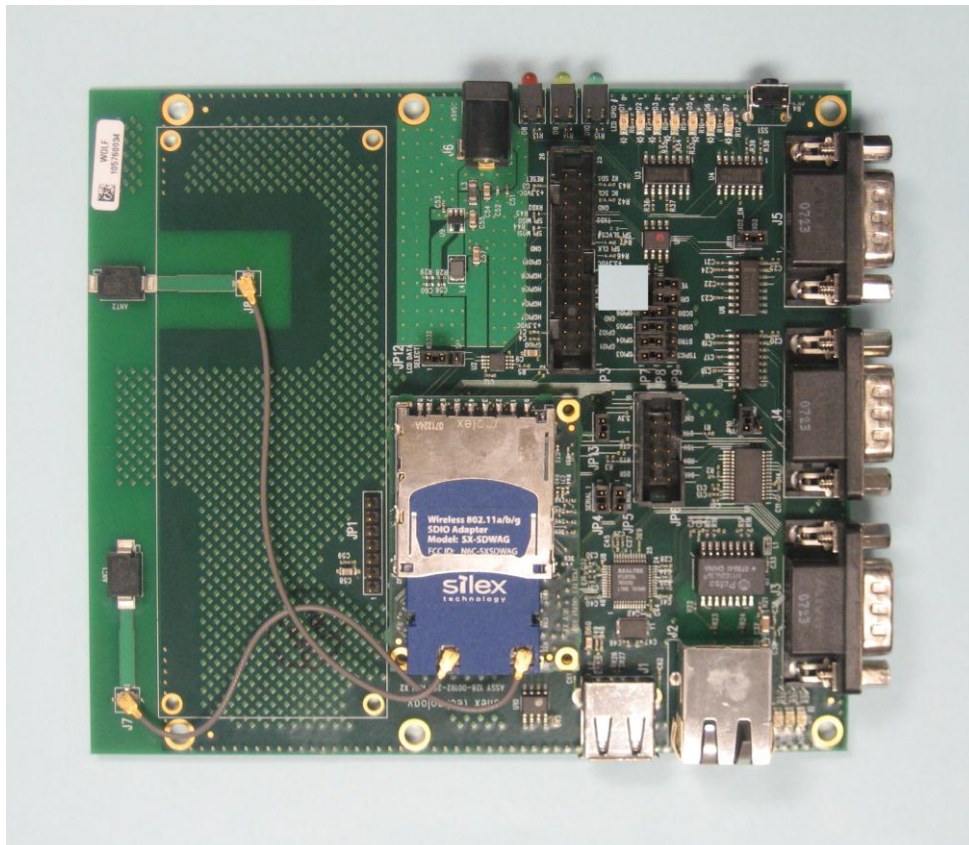

Figure 3 Installing SX-560-1701 Module in Evaluation Daughtercard
The SX-560-6900 Evaluation Daughtercard is designed to help you in the development of the necessary hardware and software required to use the SX-560 module. It includes I/O connectors, cables, and power supply in an easy-to-use package. The SX-560-1701 Module is installed in the Evaluation Daughtercard as shown in Figure 3. The SX-560-2701 module is installed as shown in Figure 4
2. The Evaluation Daughtercard includes both on-board bead antennas and external antennas. Use the included U.FL to U.FL cables with the bead antennas or the U.FL to RP-SMA cables with the external antennas. Plug the main antenna cable into the Main Antenna Connector on the card (see Figure 3). Plug the auxiliary antenna cable into the Auxiliary Antenna Connector (the auxiliary antenna improves radio reception, but is not required for operation).
3. If you are using the on-board bead antennas, connect the other end of the antenna cable(s) into either of the built-in bead antenna connectors (J7 and J8) as shown in figure 3. If you are using the external antennas, connect the RP-SMA end of the antenna cable(s) to the external antenna(s).
2. The Evaluation Daughtercard includes on-board chip antennas. Use the included U.FL to U.FL cables. Plug the main antenna cable into the Primary Antenna Connector on the card (see Figure 3). Plug the auxiliary antenna cable into the Auxiliary Antenna Connector (the auxiliary antenna improves radio reception, but is not required for operation).
3. If you are using the on-board chip antennas, connect the other end of the antenna cable(s) into either of the built-in chip antenna connectors (J7 and J8) as shown in figure 3.